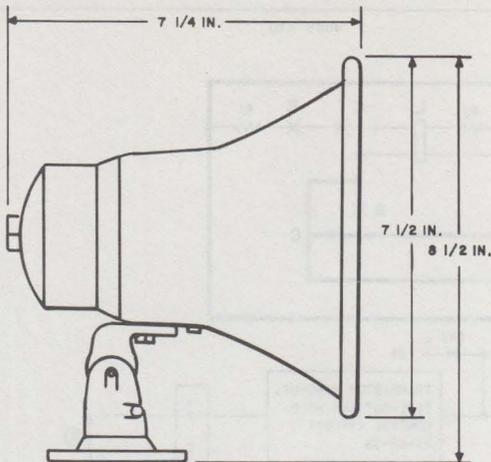

Fig. 11—KS-168486 List 2 Loudspeaker
2.14 The KS-16846, L2 loudspeaker (Fig. 11) is an outdoor speaker used for paging. It is 7-1/2 inches in diameter, 7 inches deep, and weighs